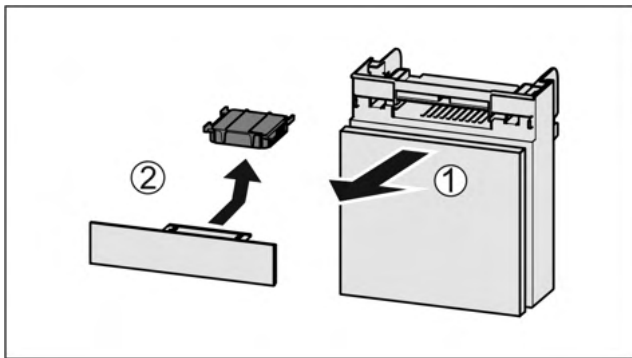

Fig. 160
- ▶ Pull out the compartment Fig. 160 (1).
- ▶ Remove the carbon filter Fig. 160 (2).